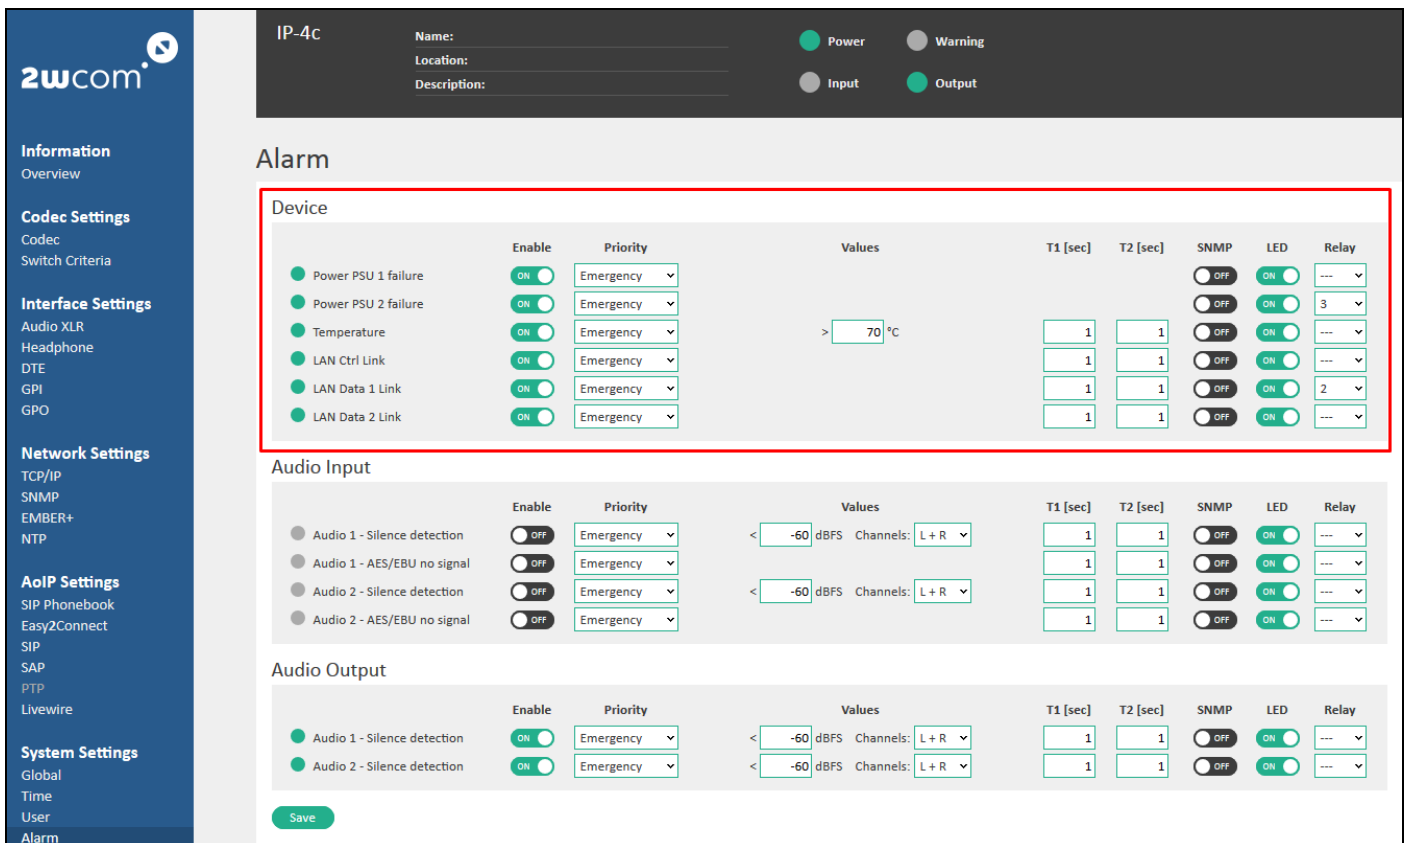

Figure 56: Alarm Settings – Monitoring of the device
1. Open the configuration field “Device” in the window “Alarm” under **System Settings**→**Alarm** in the web interface of the IP-4c (see Figure 56).